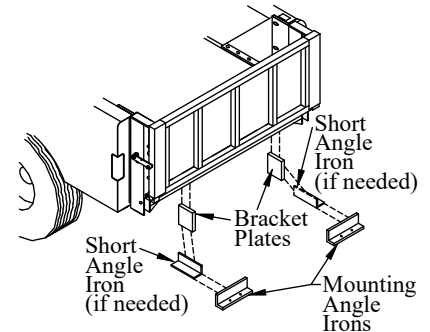

Figure 17: Lower bracket support.
- 2. Bolt** the bracket plates to the truck frame (Figure 17). If possible, these may extend out to the mounting angle irons on the liftgate. Modification to the bracket plates may be required.